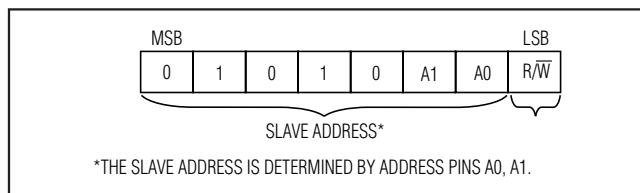

Figure 1. DS3502 Slave Address Byte
The slave address byte consists of a 7-bit slave address plus a R/W bit (see Figure 1). The DS3502's slave address is determined by the state of the A0 and A1 address pins. These pins allow up to four devices to reside on the same I2C bus. Address pins tied to GND result in a 0 in the corresponding bit position in the slave address. Conversely, address pins tied to VCC result in a 1 in the corresponding bit positions. For example, the DS3502's slave address byte is 50h when A0 and A1 pins are grounded. I2C communication is described in detail in the *I2C Serial Interface Description* section.
**Slave address byte:** Each slave on the I2C bus responds to a slave address byte sent immediately following a START condition. The slave address byte contains the slave address in the most significant 7 bits and the R/W bit in the least significant bit. The slave address byte of the DS3502 is shown in Figure 1.